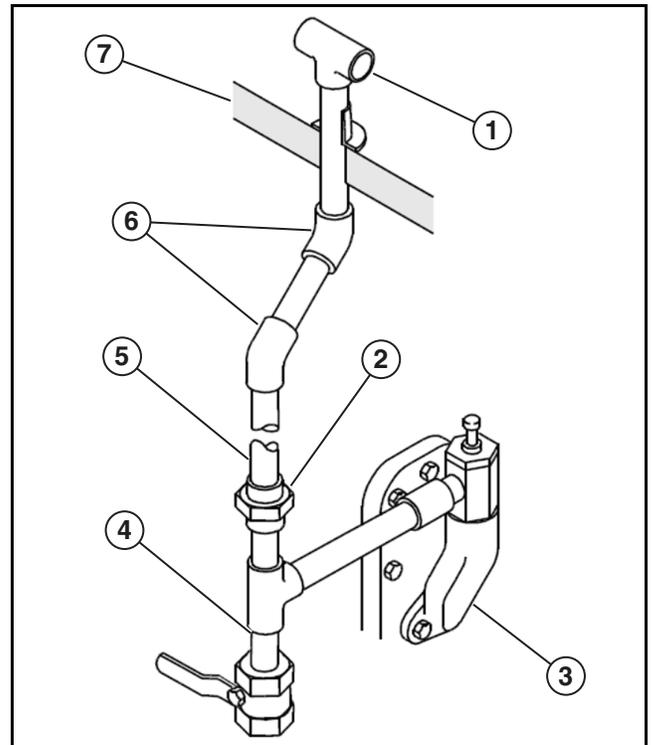

Figure 1: Crankcase Breather System
Reference *Figure 1* as an example of proper breather construction.
- The breather should be piped with no 90° elbows, with exception of a pipe tee mounted from the breather housing body as seen as item #4 in *Figure 1*. Any additional 90° elbows added to this system will create restrictions in the flow of exhaust gases.